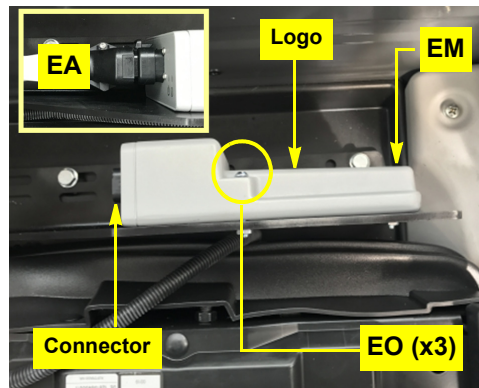

Figure 1b: ECU installed
NOTE: Figure 1b shows the ECU attached with temporary hardware; use **EO** supplied.
- c. Connect main cable **EA** to **EM** (Figure 1b, inset).